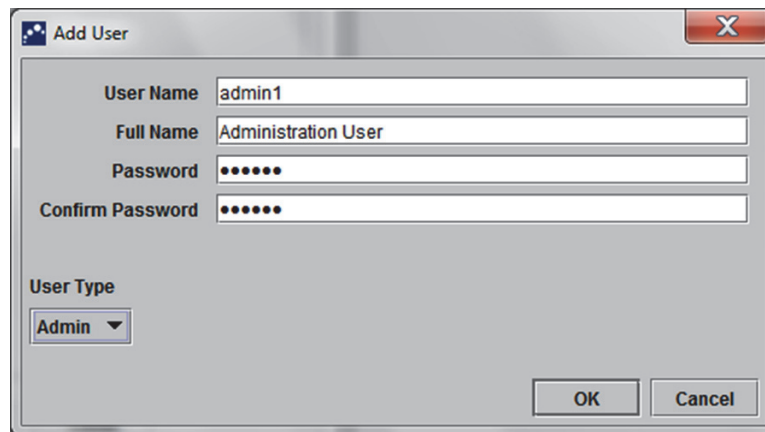

Figure 2-34. Add User Dialog Box
2. Click **Add**. The Add User dialog box appears. See Figure 2-34.